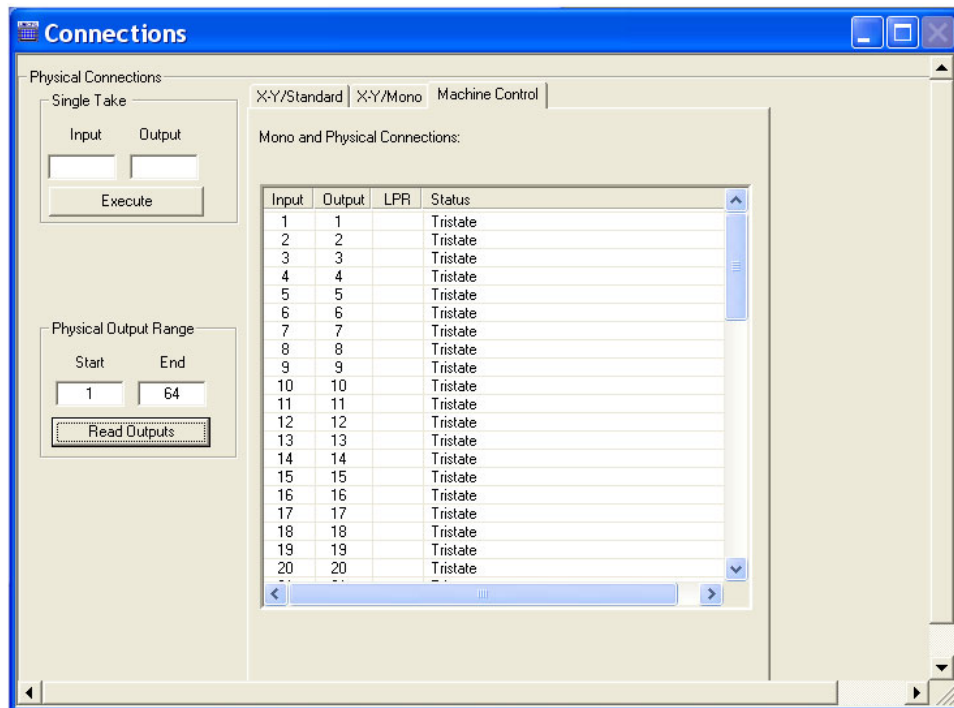

Figure 11-2. Example of Connections Window with Machine Control Tab in Front
- 2 From the menu bar, select 'Window > Connections'. The 'Connections' window appears with blank fields. The 'Connections' window must be active to activate the necessary menu bar options. (See Figure 11-2.)
- 4 Select the 'Machine Control' tab, as shown in Figure 11-2. Each input is listed with its corresponding output.
- 3 From the menu bar, select ‘Window > Connections’. The ‘Connections’ window appears, as shown in Figure 11-2.